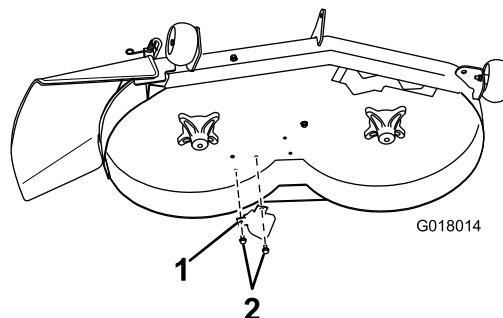

Figure 4
13. Install the kicker to the underside of the mower deck using 2 self-tapping screws (5/16 x 3/4 inch) at the location shown in Figure 4.